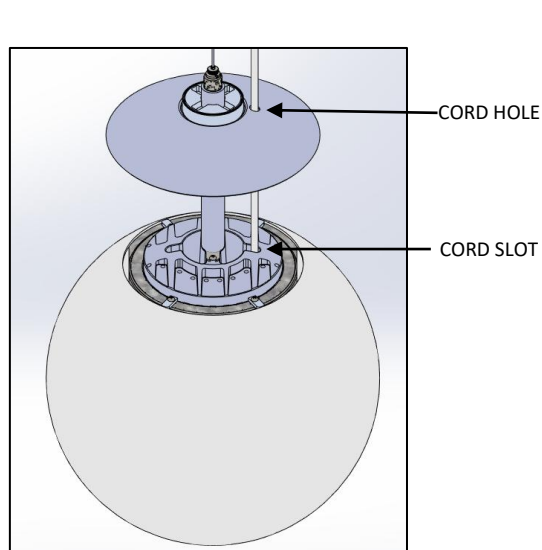

FIG. 38 – FITTER AND TOP COVER INSTALLATION
30. Make sure that ACRYLIC SHADE is properly seated onto the INSERT COLLAR and the CORD HOLE in TOP COVER lines up with the CORD SLOT in the REFLECTOR SUBASSEMBLY as shown in FIG. 38.